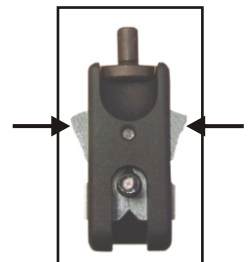

Figure 4
Step 3. (Fig.4) To remove the cable assembly, open the tool and press the outside split-jaw tabs and pull out the connector assembly.